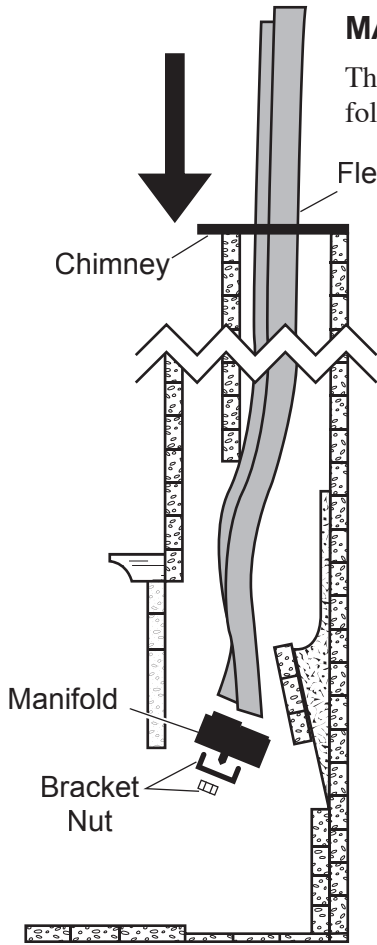

Figure 10 - Placing Manifold Into Fireplace
3. Route flex vent through chimney from above. See Figure 10. Leave an extra 3" (914mm).